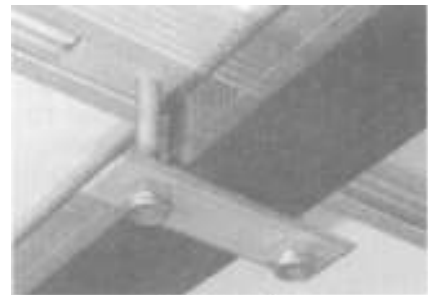

Figure 3
3. Attach the roof tent to your roof rack or roof bars in four places as per Figure 3. Use 2 bolts and 2 slide plates with the base plate to hang the bar. 1 set per corner.